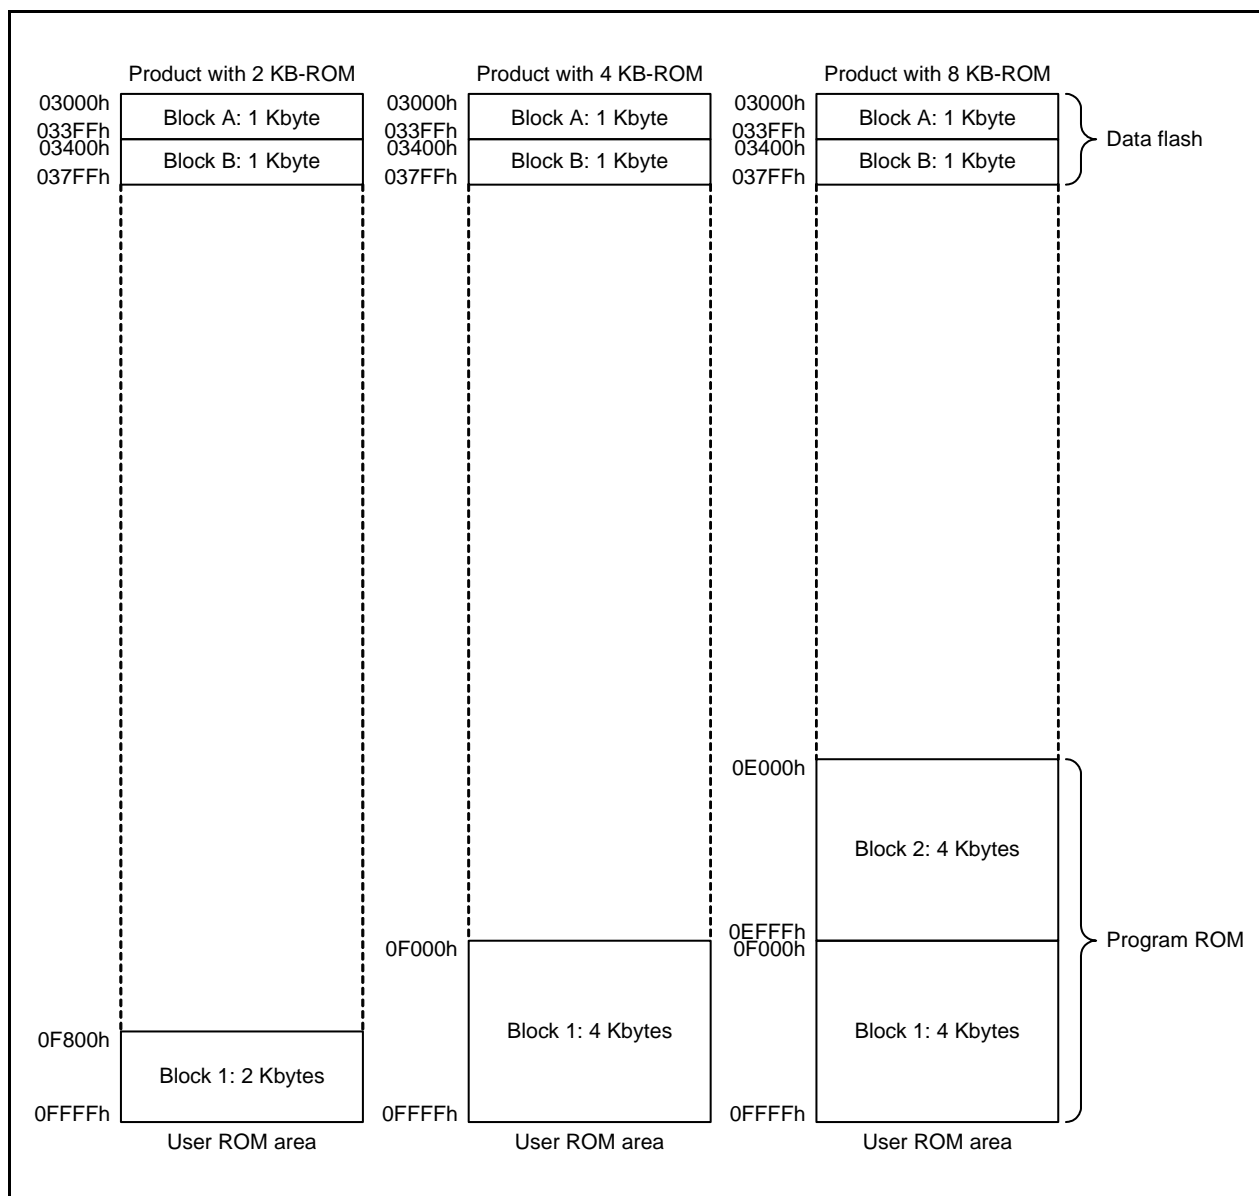

Figure 19.1 Flash Memory Block Diagram
- The number of blocks and their division differ depending on products. For details, see **Figure 19.1 Flash Memory Block Diagram**.
Figure 19.1 shows the Flash Memory Block Diagram.